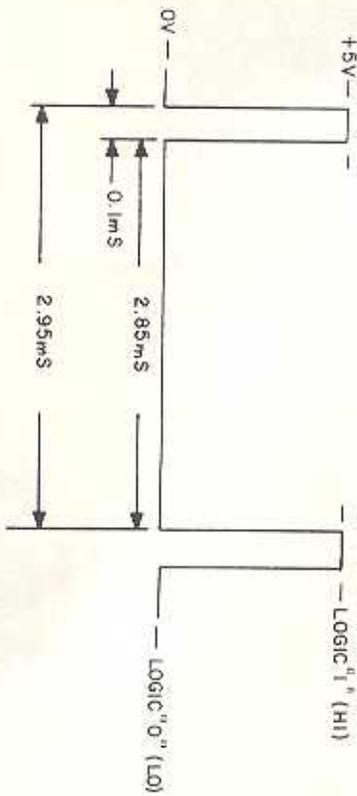

Fig. 35 Typical pulse output of 5900
- Now set the scope's sweep rate to 0.5 ms/div and notice that the TTL low level, OV duration is approximately 2.85 ms (2850 us), a duty cycle of: $(0.1 \text{ ms}/2.85 \text{ ms} + 0.1 \text{ ms}) \times 100$ or 3.39%. (Fig. 35)